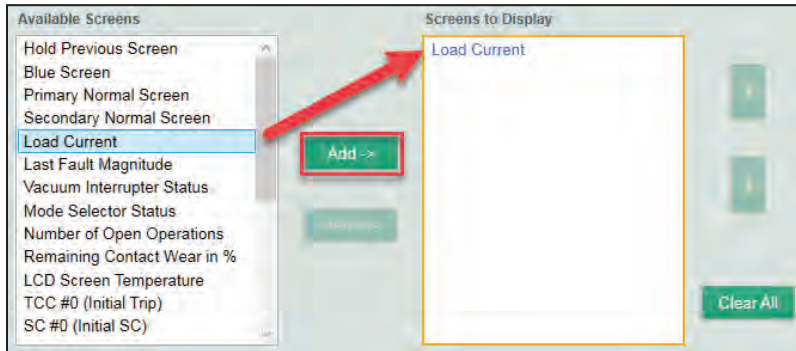

Figure 114. The Add button.
**Add.** The **Add** button is used to add a highlighted item or a group of items from the Available Screens list to the Screens to Display list on the right. See Figure 114.